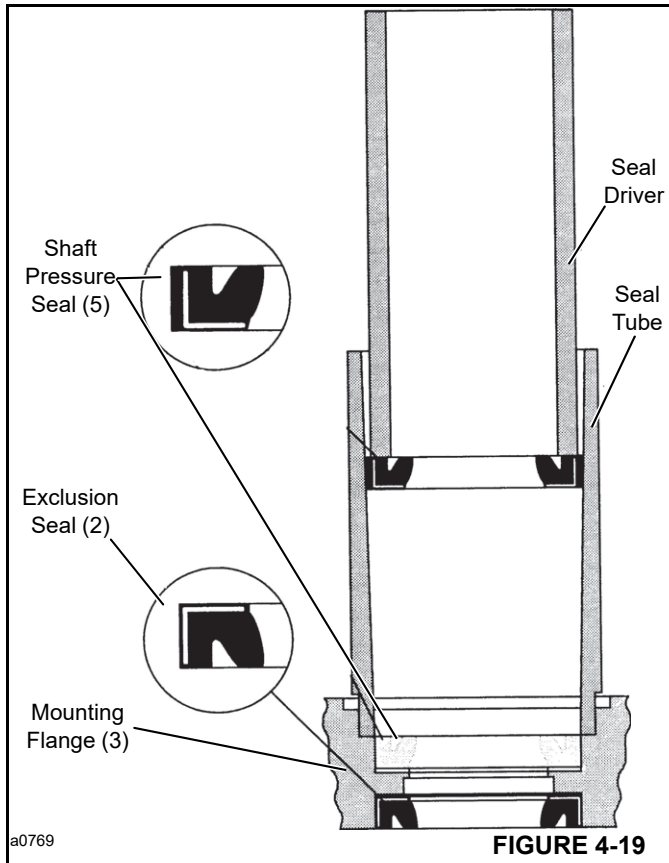

FIGURE 4-19
4. Visually check seal seats in the mounting flange (3) for scratches or other marks that might damage the seals (5). Check for cracks in flange (3) that could cause leakage.
5. Install exclusion seal (2, Figure 4-14) in flange (3) with the lips of the seal facing out. See Figure 4-19. Carefully press the exclusion seal in place.
6. Install shaft pressure seal (5) in flange (3) with lips of seal face up using a suitable driver. See Figure 4-19. Carefully press the pressure seal in place.